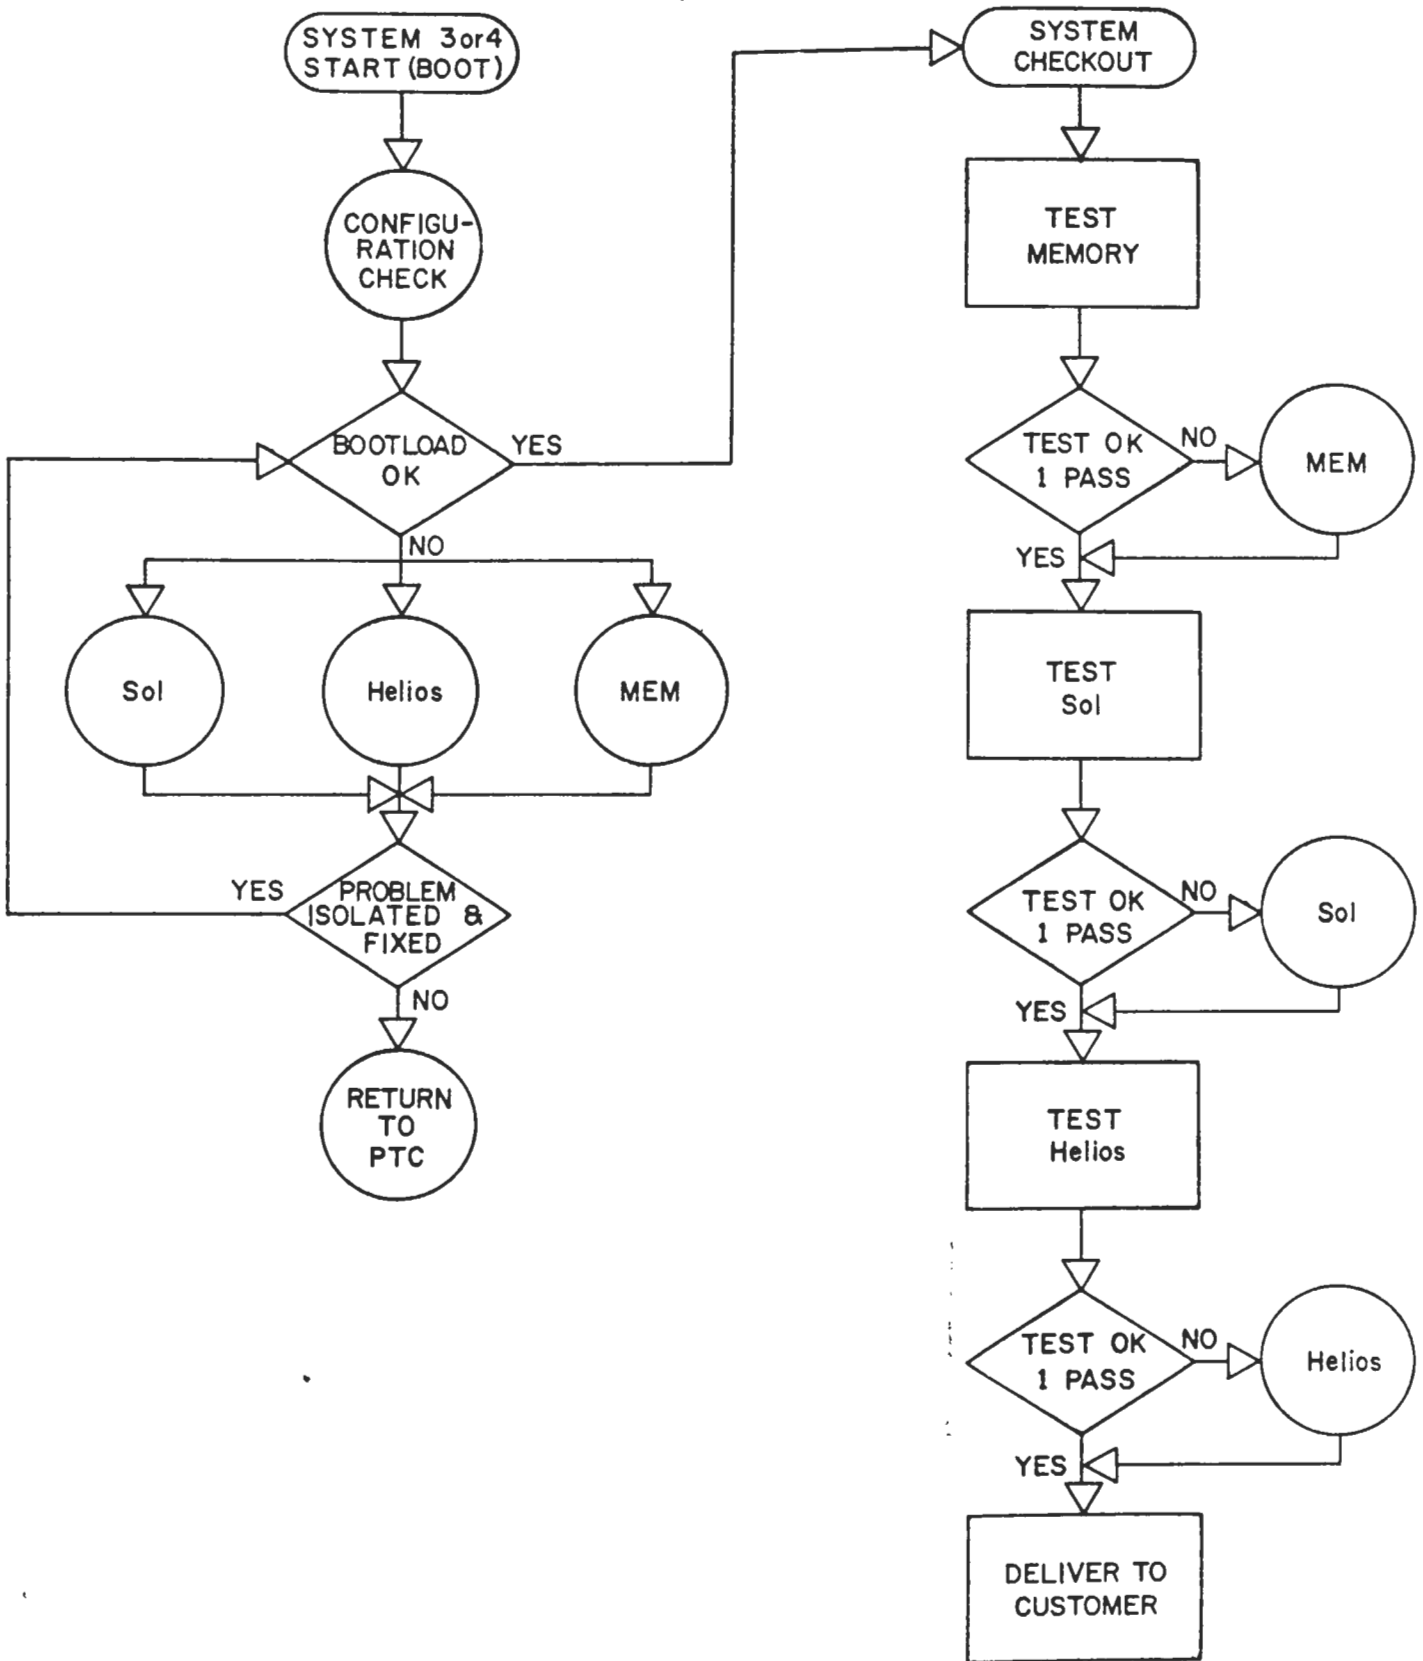

Fig. 3-1. Flowchart, System Diagnostic Procedure
8) Follow diagnostic procedure as shown in the flowchart, Fig. 3-1, "System Diagnostic Procedure."